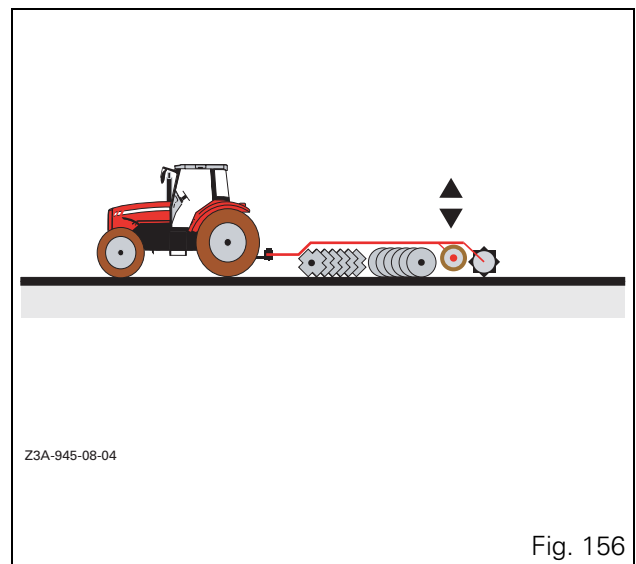

Fig. 156
- a trailed rear implement with the TRAILED IMPLEMENT CONTROL (T. I. C.) (e.g.: a disc tiller (Fig. 156), a trailed Chisel, etc.). These implements must be hitched either to the swinging drawbar, or to the lift arms. This system allows the implement height to be set according to the wheel slip and the draft applied to the lift arms (if the implement is hitched to the lift arms).